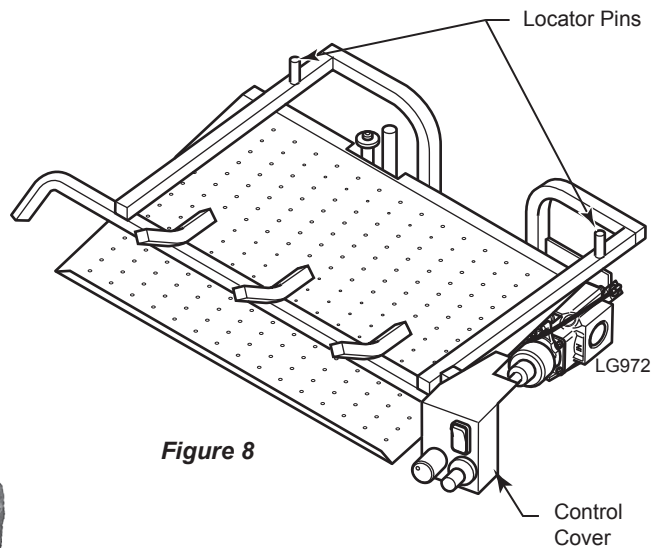

Figure 8
1. Place back log (#1) on back of base aligning two (2) pins on base with holes in bottom of log. *Figures 8 and 9*